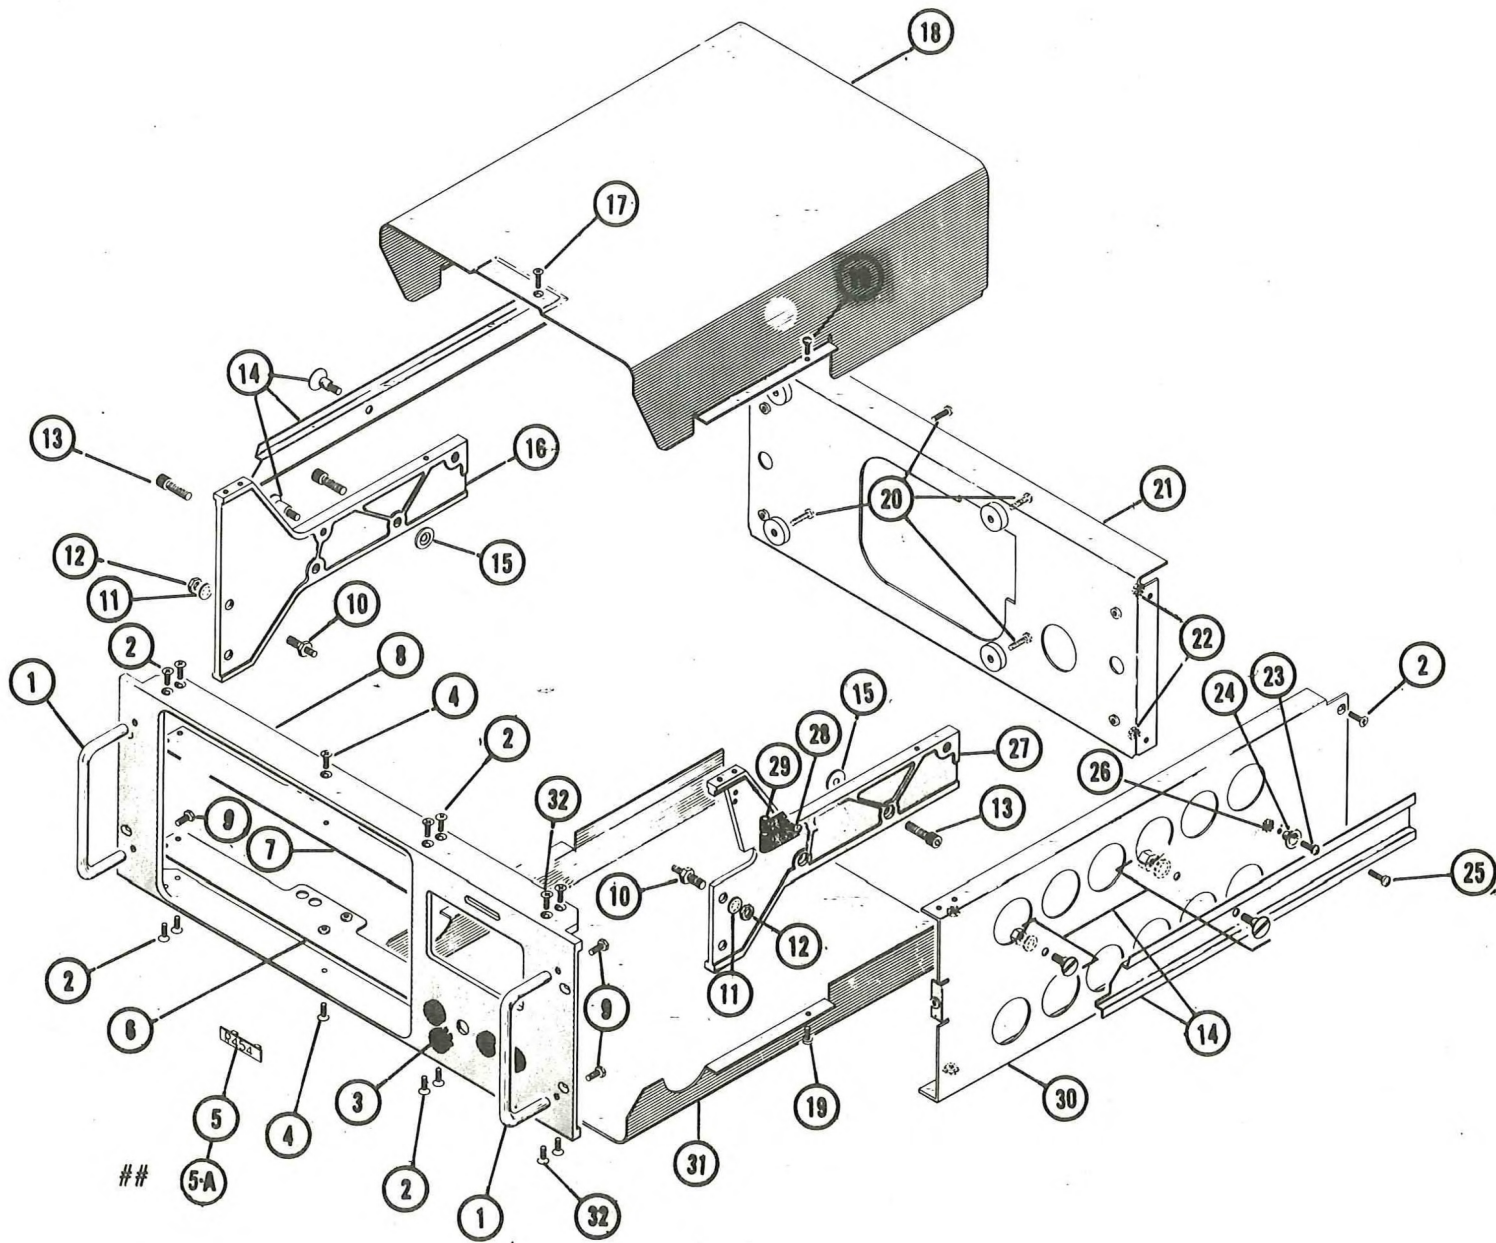

FIG. 5
- () 7. Remove the two 10-32 x 5/16 FHS screws from the front of each frame rail and install the shouldered studs (from kit) in their place. (See Item 10, Fig.5)
ITEM NUMBER PARTS LIST FOR FIG. 5